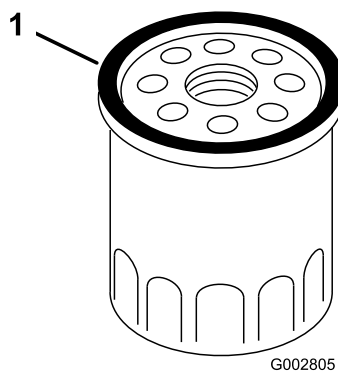

Figure 31
7. Use your finger to coat the gasket on the new filter with oil (Figure 31).